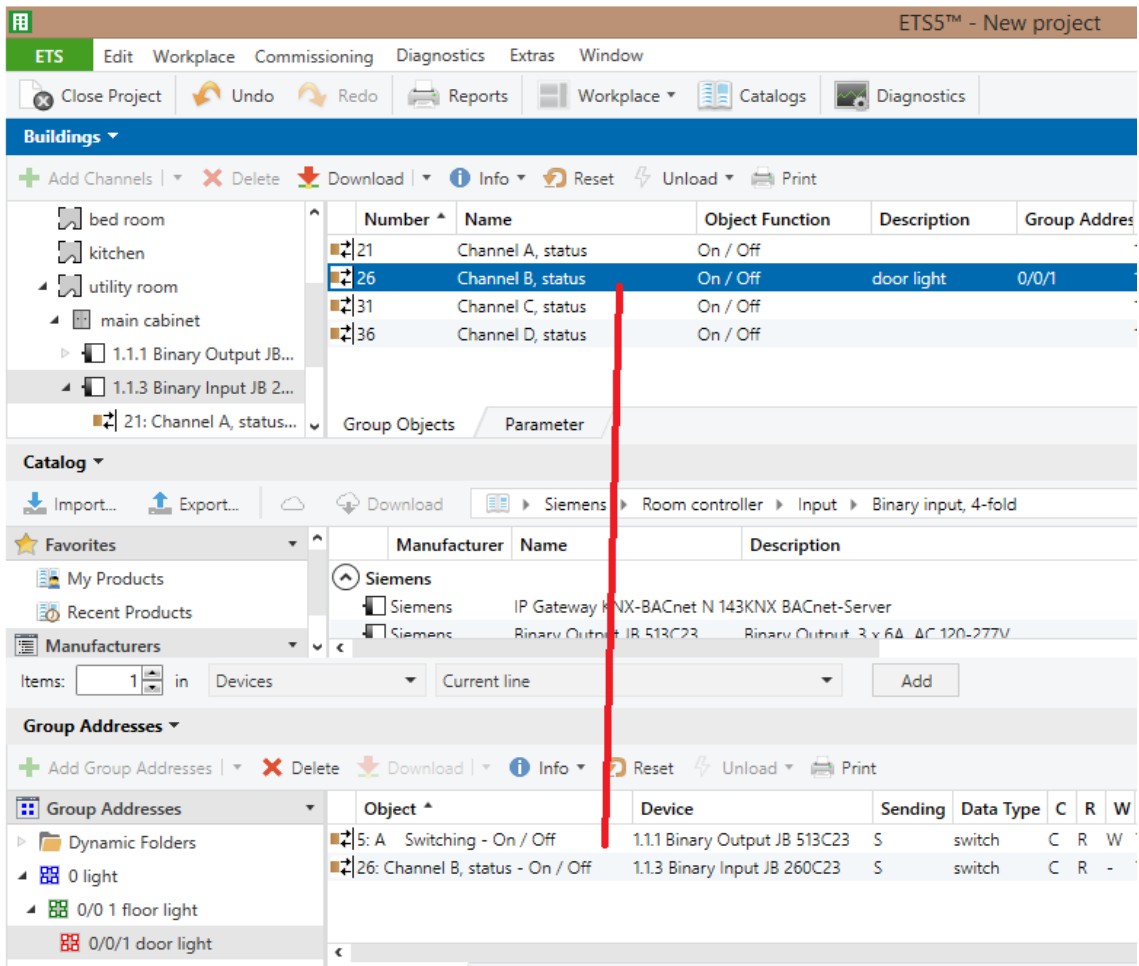

Fig. 73: drag&drop of item 26, module 1.1.3
We can do the same thing with item 26 of the binary input module 1.1.3 (see figure 73).